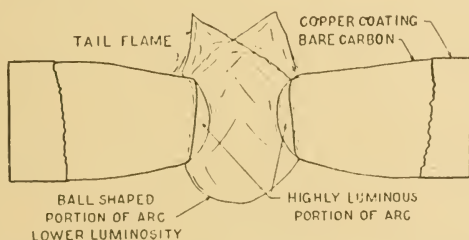
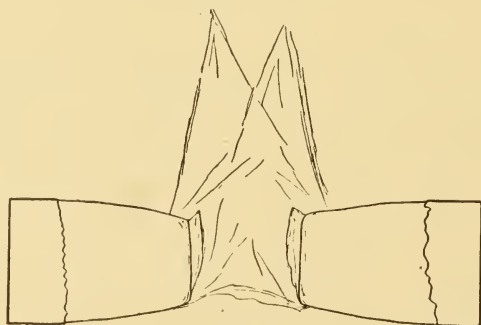

FIG. 94.—8-mm. a-c. high-intensity carbons: 80 amperes, 25½ volts; good operating conditions.
FIG. 98.—8-mm. a.c. high-intensity carbons; 80 amperes, 26 volts; medium arc length, arc disturbed by external forces.
(125) It is essential to perfect operation of the arc and good projection light that the high intensity a.c. arc be maintained within certain very definite limits. Figure 94 shows the high intensity a.c. arc burning under good conditions, at 80 amperes and with 25.5 volts drop between two 8 mm carbons.
(131) If the length of the arc is increased beyond that shown in Fig. 94, the form of the arc will be sustained, if the operating conditions are proper, until the length is approximately 0.35 inch (8.9 mm). In Fig. 97, A shows the arc immediately before and B after such a point has been reached. At and beyond that length the arc has a tendency to move upward, so that the lower part no longer bows down appreciably and the upper part and the tail-flame become greatly extended. The highly luminous portion close to the electrode likewise becomes distorted as shown at B in Fig. 97 and the arc is unstable to
(132) Another condition that must be considered, and if encountered, corrected, is shown in Fig. 98. The arc being of medium length would ordinarily have the appearance shown in Fig. 94, but is disturbed by external sources, so that it appears very much as at B in Fig. 97. It has a tendency to snap back and forth between that position and the one shown in Fig. 94, causing variation of the current and voltage, accompanied by flicker and uneven light distribution. This condition may be caused by too strong a draft in the lamp house, by an unbalanced magnetic effect due to a poor arrangement of the current leads, or by any other factor that would tend to distort the arc.